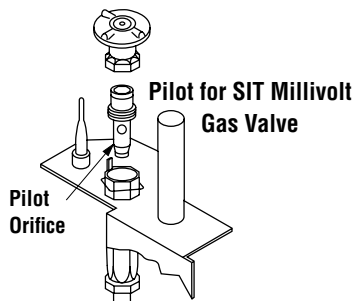

Figure 61
Step 6. See **Figure 61** and remove the pilot hood assembly to access the hexed pilot orifice. Remove and replace the orifice with the one provided with the kit.